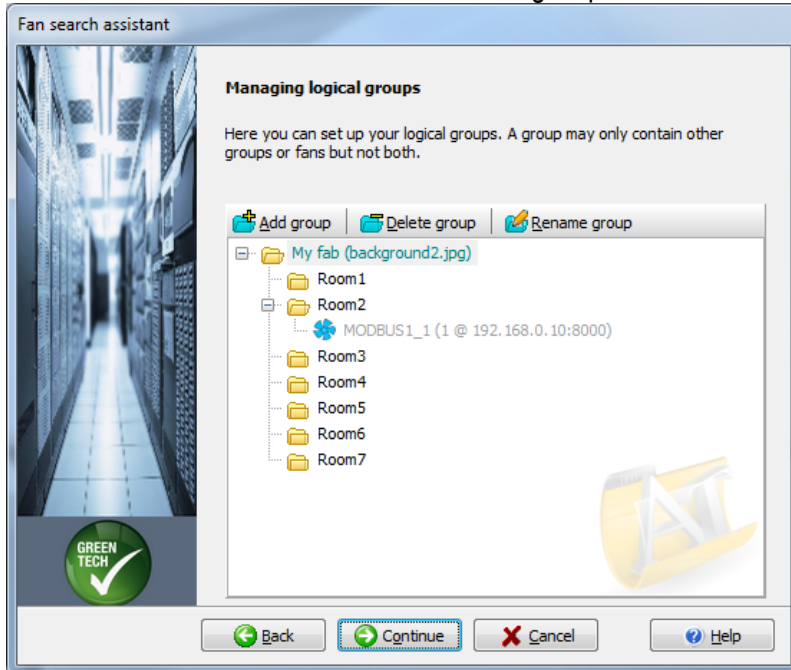
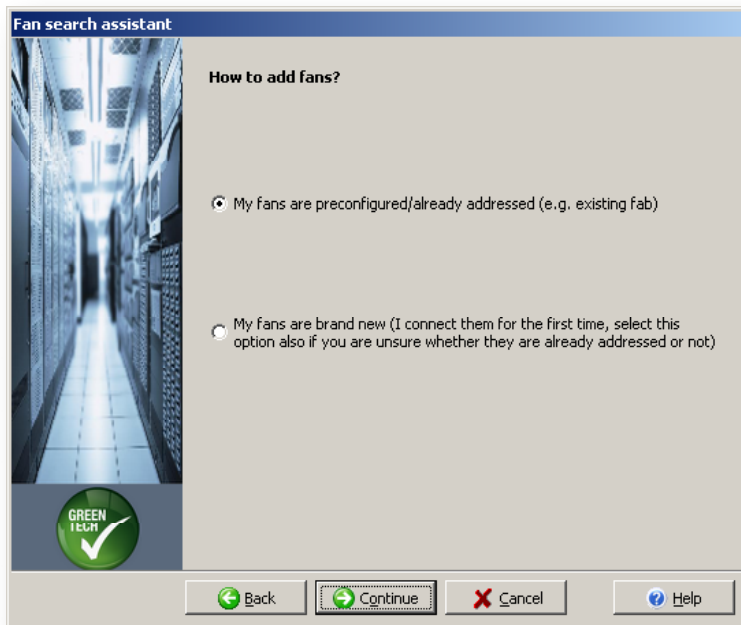

Fig. 3-13 Selecting a logical group
Fig. 3-14 Options for configuring several fans
Click Continue. The dialogue for selecting a logical group shown under item 6 in Fig. 3-13 appears. This is intended for selection of the logical group to which the fans added to the fab in this operation are to be assigned. It is only possible to select groups which have no other subgroups. Later in the process it is possible to split up the fans into different groups if this is required. After selecting a group, click Continue and then proceed with Chapter 3.3.2 (first option) or Chapter 3.3.3 (second option) depending on the option previously chosen (refer to Fig. 3-14). After reading the corresponding section continue with item 8.
If you select the first option and click Continue, the screen for selecting a logical group (Fig. 3-13) from item 6 appears again and the Add process starts again. To conclude the process of adding fans, select the second option and click Continue.